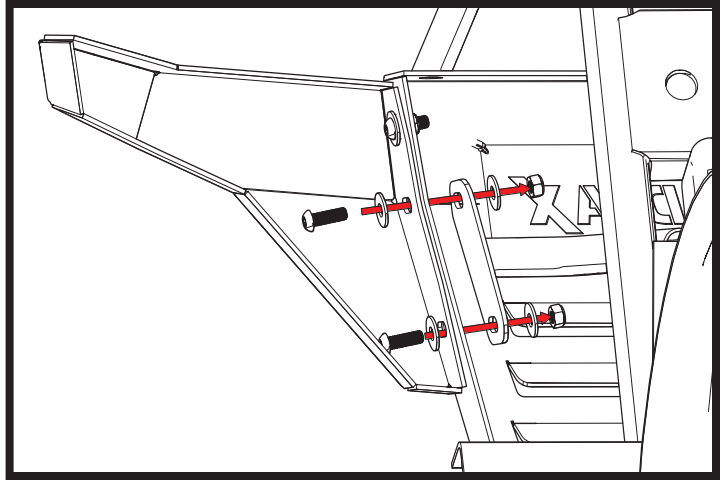

Fig. 10
Hold the brushguard assembly up to the mounting arms. Assemble it to the mounting arms using four (4) m8 button head bolts, four (4) m8 nuts, and eight (8) m8 washers as shown in Fig. 10. Tighten the hardware finger tight to allow for position adjustment.
Hold the brushguard in desired position in relation to the front cowl ensuring proper angle and gap between the brushguard and cowl as shown in Fig. 10. Tighten the mounting arms to the vehicle, alternating between each side of the u-bolts.